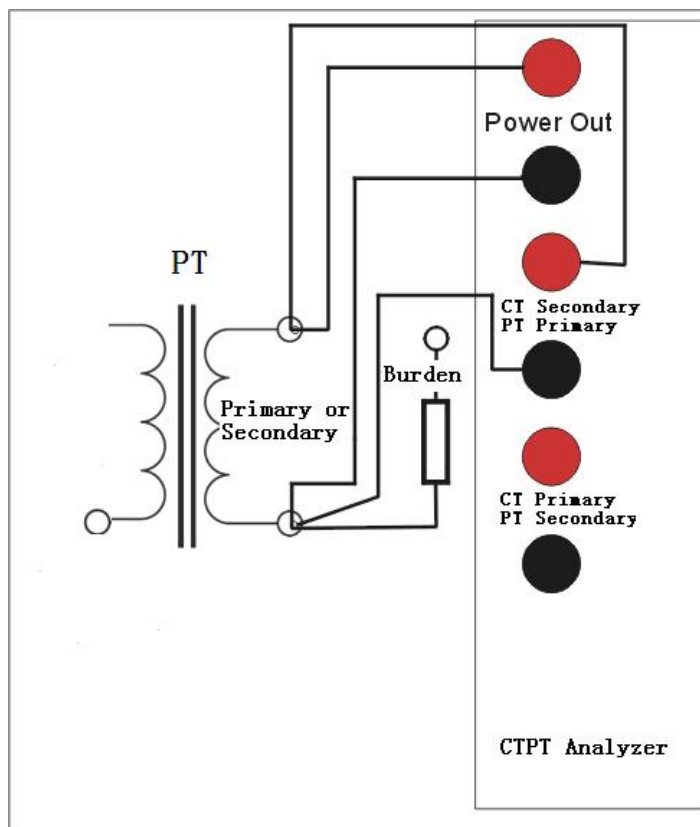

Figure 3.7 Coil resistance test connection
Please connect analyzer and sample PT as figure 3.7 in PT coil resistance test
- 1) Connect analyzer grounding terminal to protection earth (PE).
- 2) Disconnect sample PT coil with loop as figure 3.7.